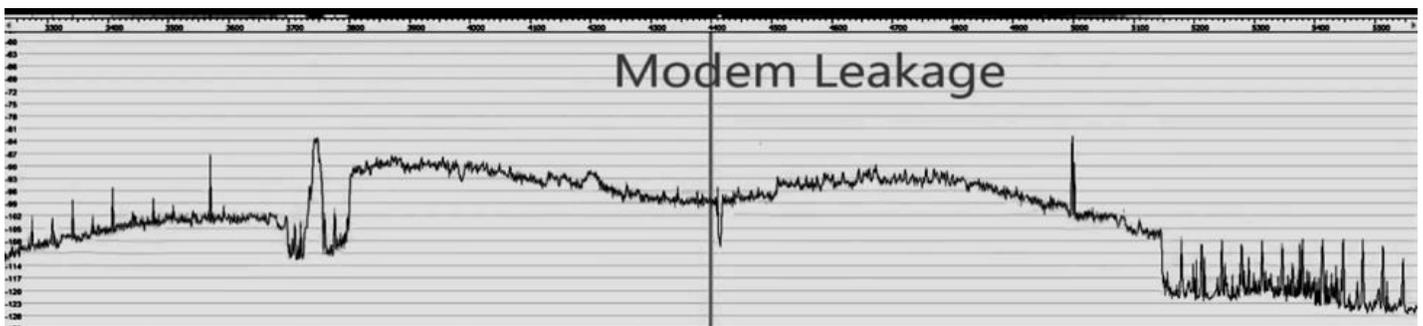

Fig 2 –VDSL/Cable Modem 3.2MHz – 5.6 MHz, 3dB/div
**Signal Leakage** from equipment or wiring is a third type of interference. Fig 2 shows leakage from a VDSL modem from about 3.7 – 5 MHz that strongly affects the 75M band. With help from W0QE, W0IVJ captured this spectral plot from an SDR in his Toyota as he drove around his neighborhood. The broad hump of noise is from the modem – the spikes are from an SMPS in his Toyota, as well as from other noise sources in the neighborhood. The spike at 5 MHz is WWV's carrier. This RFI will be heard as noise or hash. Tom recorded this as a video, which he has posted at <https://www.youtube.com/watch?v=HIGMmEgzhv0&feature=youtu.be> There's more about this form of RFI later in this document where we address issues and solutions with specific product types.